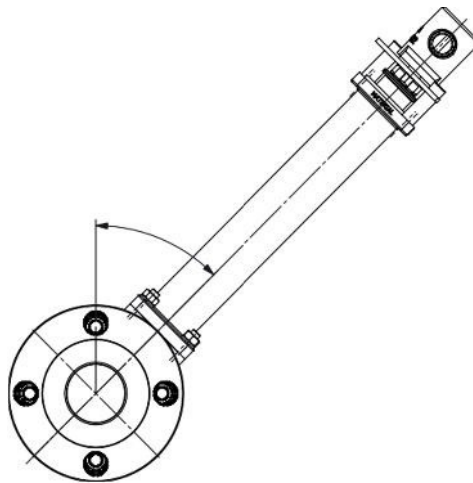

Figure 2. Valve tilting limitations
2.1.2. The function of the bonnet of a cryogenic valve is to allow proper heat transfer, and a steep temperature gradient along the bonnet's length between cryogenic temperatures as low as -196°C / -320°F and a temperature of around -10°C / 14°F at the cryogenic ISO top pad. This feature allows the soft parts of the valve stem seal to remain ductile. According to BS 6364 standard a 10 inch (250 mm) cryogenic bonnet shall be installed in the vertical position or inclined up to 45° from the vertical axis as shown in figure 2. For confined spaces and systems characterized by high vibration, Microfinish offers a 6 inch (150 mm) bonnet for sizes up to DN50. A cryogenic valve with 6 inch (150 mm) bonnet not compliant with BS 6364. A cryogenic valve with 6 inch bonnet shall be installed only in the vertical position.